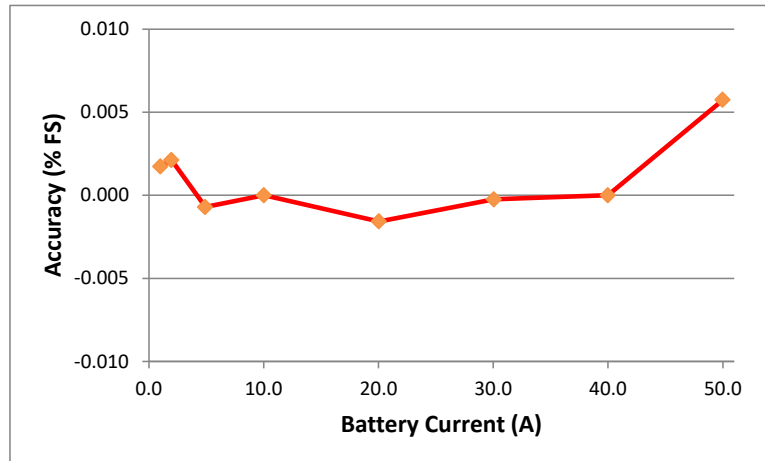

Figure 6 Battery Charging Current Accuracy
The Figure 6 shows the full scale (FS) accuracy of the reference design at BUCK mode condition. The data is better than 0.05%. The current accuracy in boost mode can also be calibrated with same method.